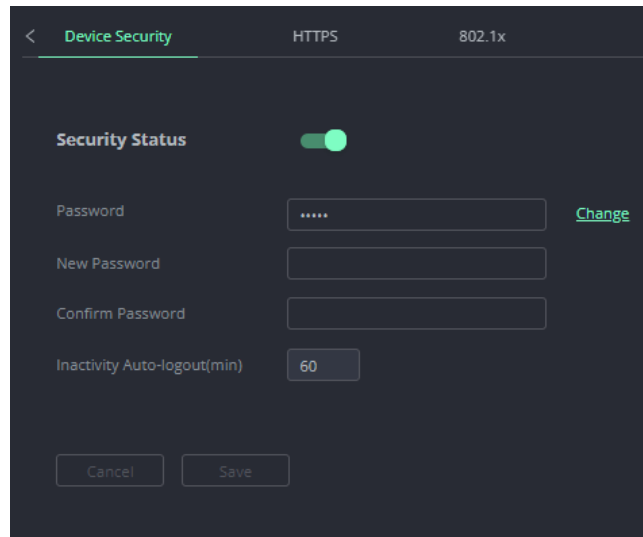

Figure 54: Device Settings – Changing the Password
2. Select the Device Security Tab. The Security settings appear (Figure 54).